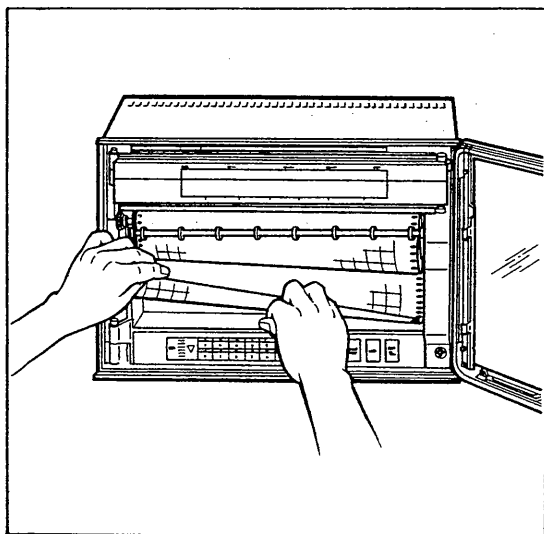

Figure 5-13.
- (6) Check that the "BAT" display does not light.
- (7) Place the battery cover in position (see Figure 5-13).